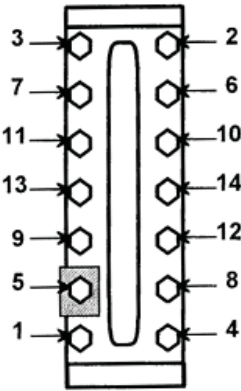

FIGURE 3
2. Hold gauge firmly; loosen nuts starting at both ends of each section and then proceed from both ends to the center of each section as shown in Figure 3.